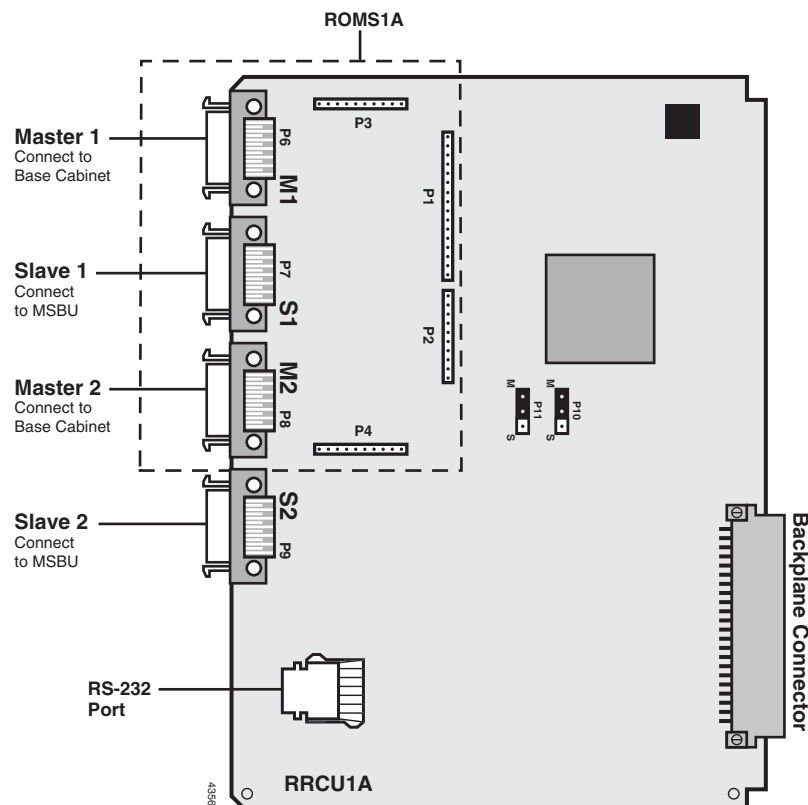

Figure 3-32 Remote Expansion Cabinet Printed Circuit Board (RRCU1A)
RRCU1A cards are used at both the Base (Master) and Remote (Slave) Cabinet locations. The card set consists of an RRCU1A PCB and its ROMS1A daughter board. The RRCU1A connects to the inter-cabinet Data Cables, holds the Remote/Slave option jumpers, and has an RS-232C port for monitoring the fibre connection. (See Figure 3-32.)
- ✦ Select correct jumper options (see Figure 3-32). On the Master side, both option plugs connect the centre pin to the upper pin (M1, M2). On the Slave side, both option plugs connect the centre pin to the lower pin (S1, S2).
- ♦ The cabinet connected to connector M2 of the RRCU in the base emerges on connector S2 of the RRCU1A at the Remote Expansion Cabinet. See Figure 3-32.
The RRCU PCB and its controls and connectors are shown in Figure 3-32 and Table 3-7.